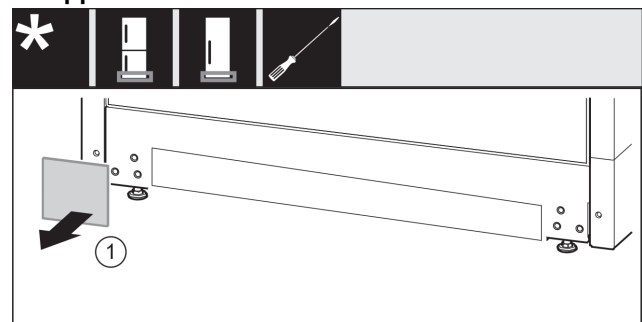

Fig. 15
- Remove the cover Fig. 15 (1).